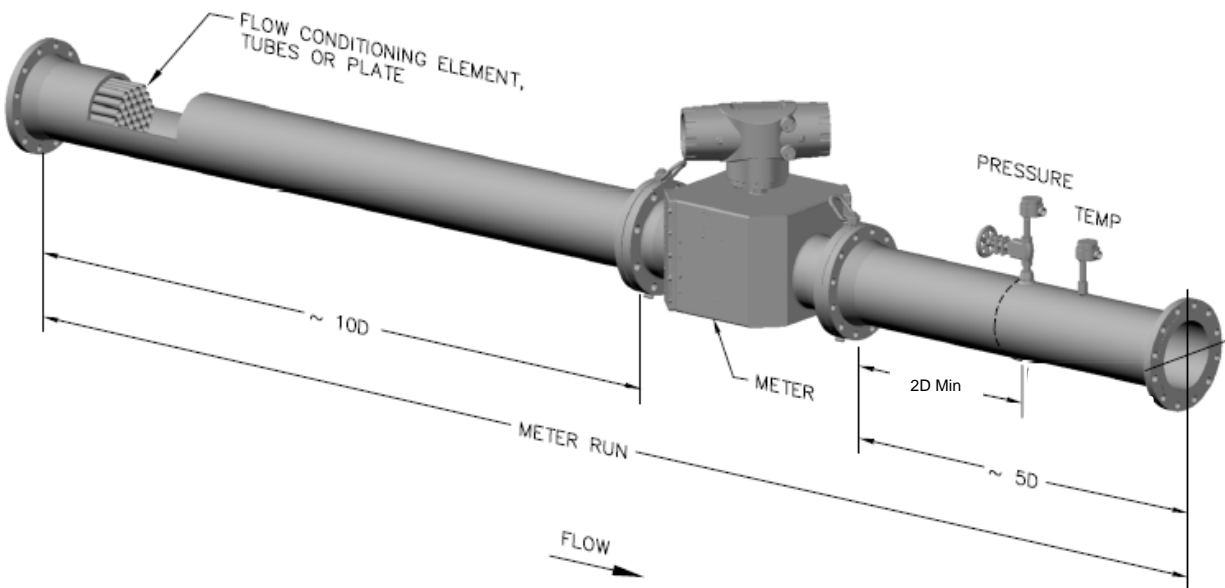

Figure 2-1 220Ci Best Practice for Installation Hydraulics
- The adjoining straight pipe should be of the same schedule as the meter. Temperature elements and pressure connections should be located downstream of the meter. It is recommended that the meter be installed downstream of a 10-diameter pipe section that includes a flow conditioning element at its inlet. For effective flow conditioning, it is generally recommended that there be an additional straight pipe of approximately 5 diameters in length located upstream of the flow conditioner. Downstream of the meter there should be an uninterrupted pipe at least 2 pipe diameters in length. Refer to Figure 2-1 for details.